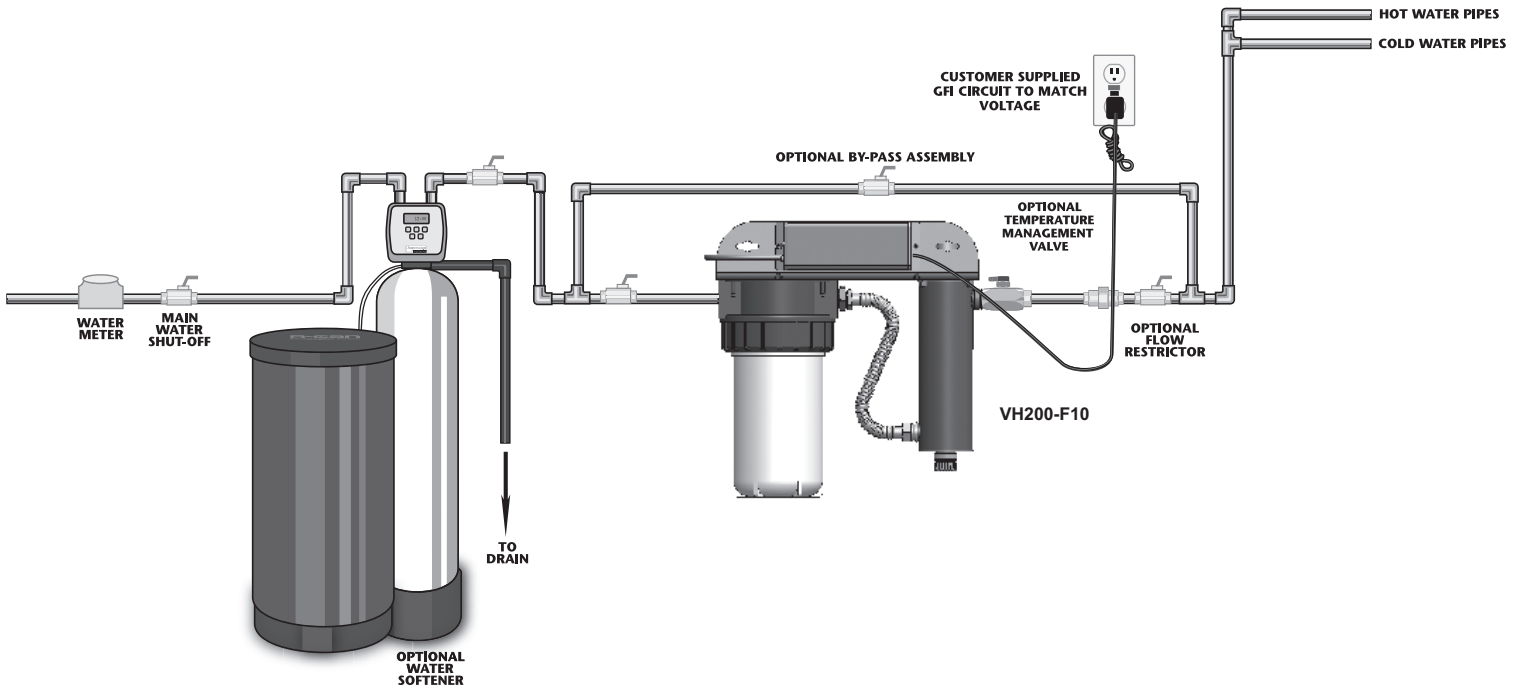

Figure 2 UV System
1. Figure 2 shows the installation of a typical drinking water system and the related components that may be used for the installation. The use of a bypass assembly is recommended in case the system requires “off-line” maintenance. If this is the case, it must be noted that the system will require supplementary disinfectant of the distribution system if any water is used during this bypass condition. In addition, during bypass, the water will NOT be treated and a “DO NOT CONSUME THE WATER” tag should be physically installed on the bypass assembly until such time as the system is